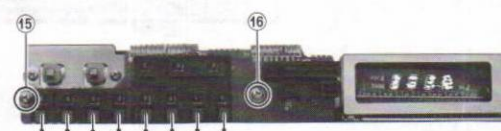

Fig. 3
1. Remove the 2 setscrews (⑮,⑯ in Fig. 3) used to fasten the printed circuit board.
3. Push the LED in the direction of arrows (in Fig. 3).